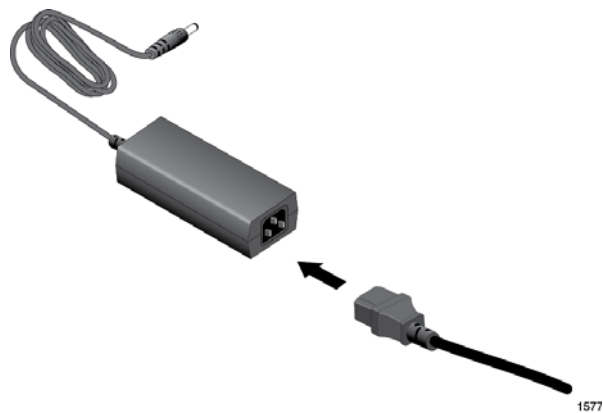

Figure 10. Connecting the Power Cord to the AC/DC Adapter
5. Connect the power cord to the AC/DC adapter. Refer to Figure 10.